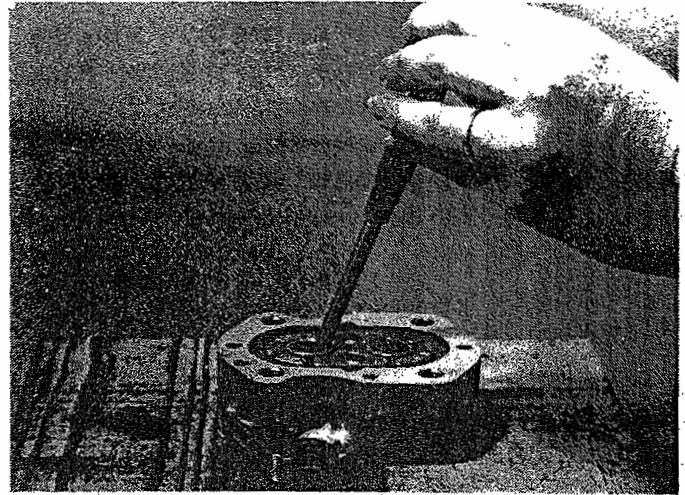

Fig. 2
3. Lay the flange on the open jaws of a vise, pilot down. Protect the machined surfaces with cardboard or wood blocks. Use a punch and hammer to drive the seal out of the bore. Care must be taken not to scar the seal bore. Drive the seal out straight by moving the punch around the seal as you drive. (Fig. 2)